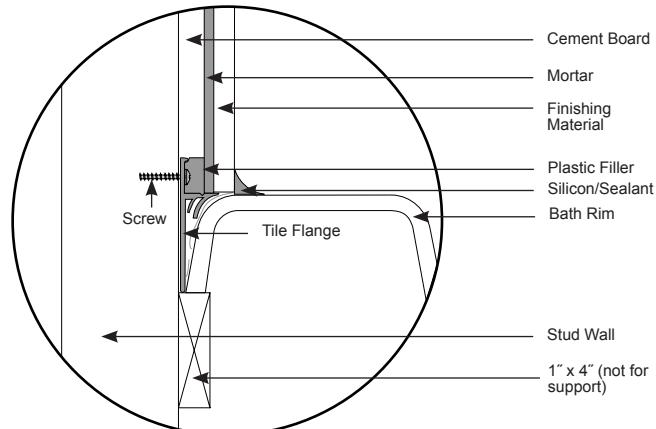

Figure 12 - Support
- 5** Place the bathtub into the niche. Screw the flange to the wood stud. It may be necessary to shim the unit to close up any gaps between the wood stud and the flange (Figure 12).